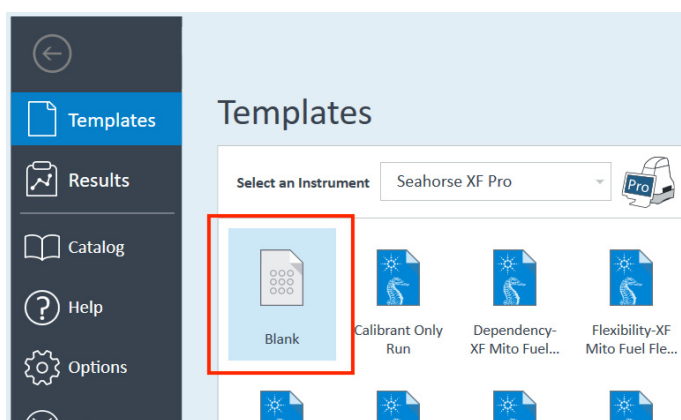

Figure 16. The Blank template pictured in the Templates view.
- 2 Open the Blank template from the Templates view (**Figure 16**).